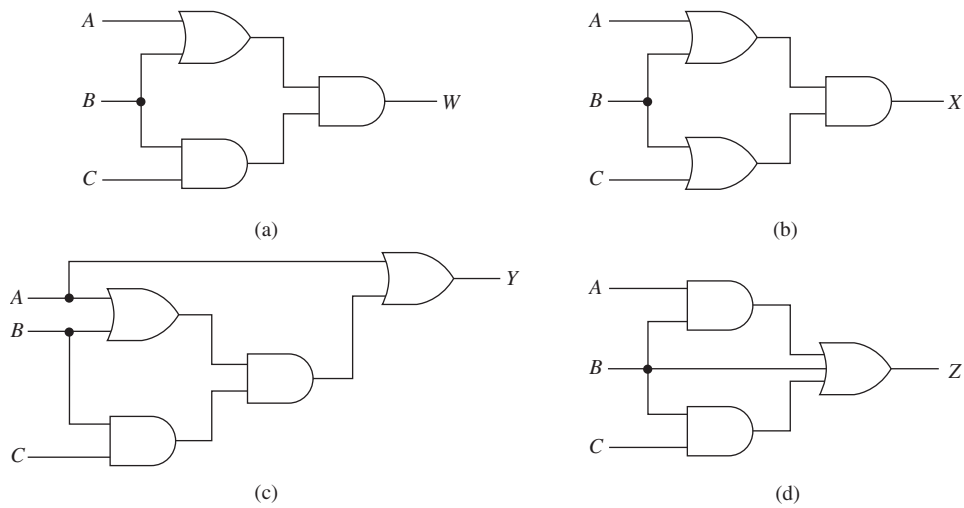

Figure P7
7. Write the Boolean equation for the circuits of Figure P7. Simplify the equations, and draw the simplified logic circuit.